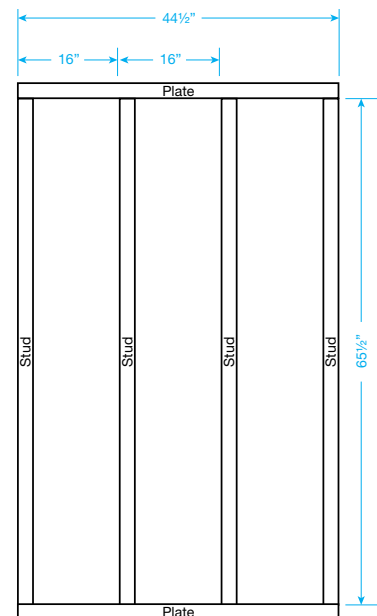

Fig. 2
Step 1: Using the measurements in Fig. 2, mark the stud locations on the top and bottom plates.
Step 2: Following Fig. 2 measurements, lay out plates and studs.